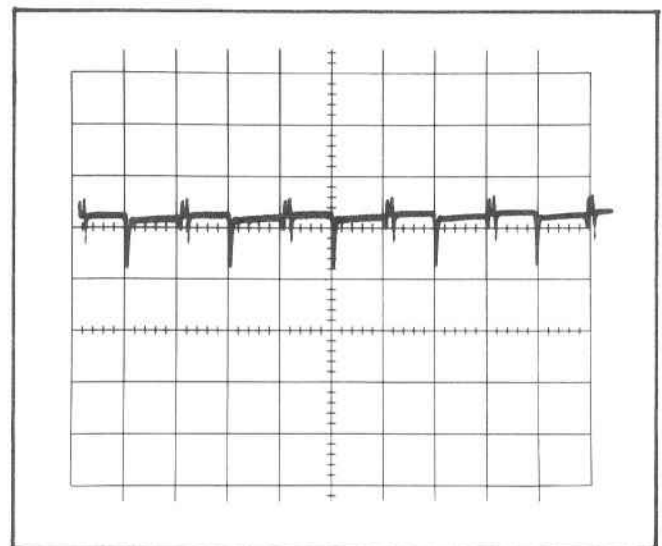

Fig. 6-21. CRT display showing effect of exceeding common-mode dynamic range limit (step 26).
- Increase the output amplitude of the generator signal. The display should not "break up" (see Fig. 6-21) until the signal amplitude is at least 30 volts peak to peak.